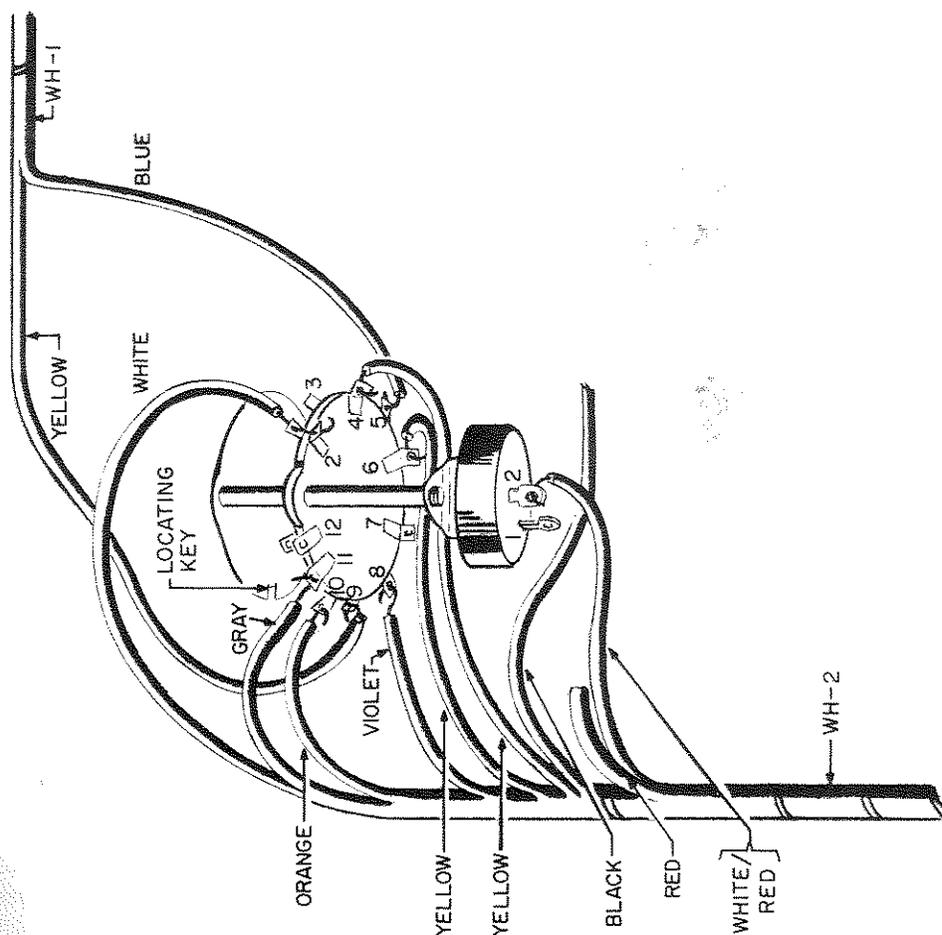

Figure 12. Wiring Function Switch S3.
To facilitate wiring the function switch, the leads from cable harness WH-2 should be connected prior to mounting the switch. Locate the end of WH-2 consisting of a white, an orange, a gray, a violet, a black, and two yellow wires, refer to Figure 12, and proceed as follows:
- (✓) Connect the white wire to terminal 2 on both the front and rear of FUNCTION switch S3 wafer as shown in Figure 12, solder to both terminals.